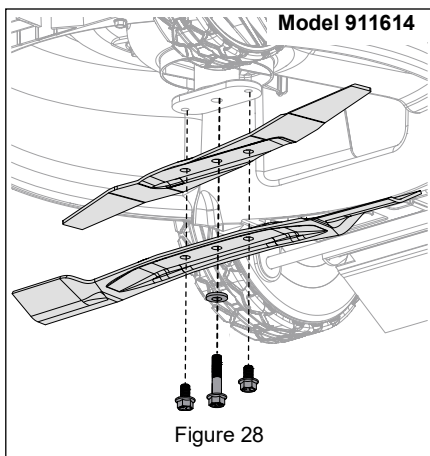

Figure 28
1. Position blades against blade adapter and secure with original hardware. See Figure 28.